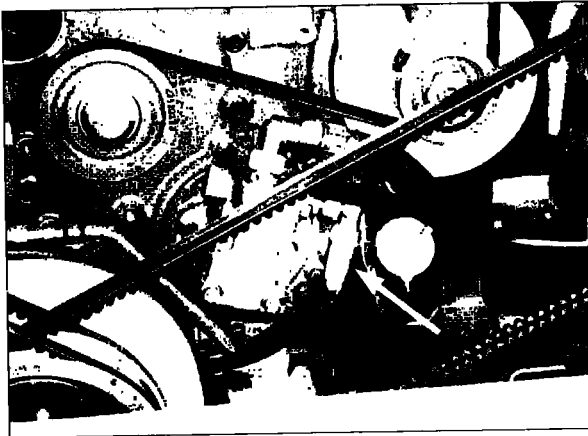

Figure 5: Behind rear engine compartment door - C2045 and T2145 w/ Detroit Diesel engine - pressure feed line at hydraulic pump. Check one crimp fitting.
2) Referring to Figures 5 through 10, locate the crimp fittings.